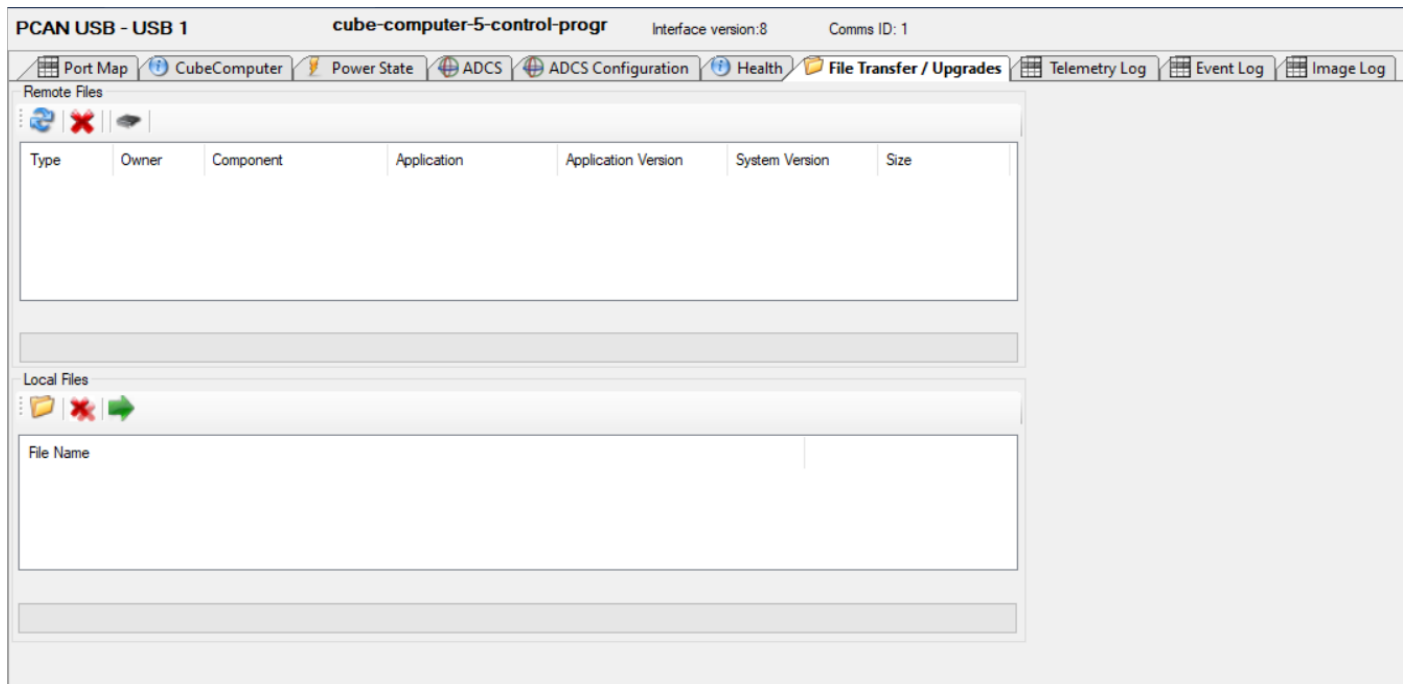

Figure 77: File Transfer / Upgrades UI
Navigate to the “File Transfer / Upgrades” tab. The user interface (UI) is shown in Figure 77.